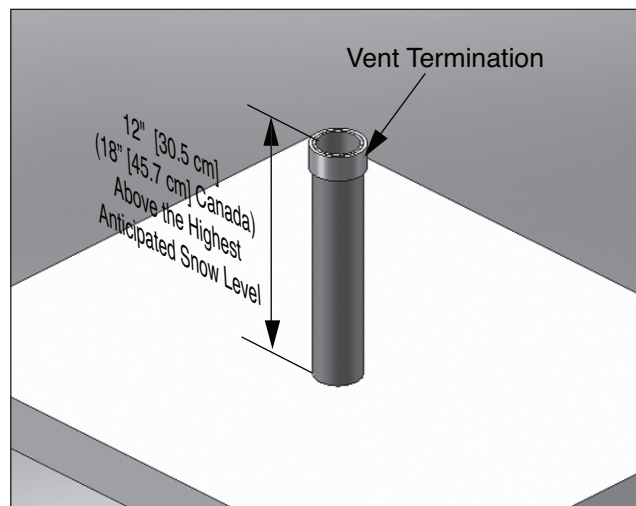

Fig. 14 - Category - IV - Vertical Termination of Vent Pipe
3. The vent piping must terminate vertically with a coupling to accept the bird screen and must be located 12" [30.5 cm] (18" [45.7 cm] Canada) above the highest anticipated snow level as shown in *Fig. 14 on page 25*.
3. Locate the vent pipe penetration to provide clearances as described in **Fig. 14 on page 25**.
3. The vent piping must terminate vertically with a coupling as shown in **Fig. 14 on page 25**.
**Do not extend the vent pipe above the roof beyond the dimensions shown in **Fig. 14 on page 25**. Extended exposure of the vent pipe could cause condensate to freeze and block the vent pipe, resulting in substantial property damage, serious injury, or death.**